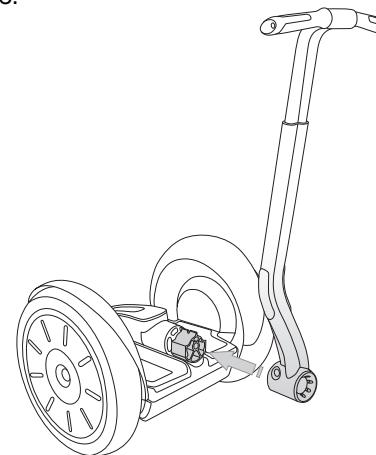

**Figure 2.** Releasing the LeanSteer Frame from the Pivot Base Assembly
3. Lean the LeanSteer Frame all the way to the left and right until the LeanSteer Frame is loose. You may hear and feel a click when the Wedge Clamp Assembly releases from the Pivot Base Assembly. See Figure 2.